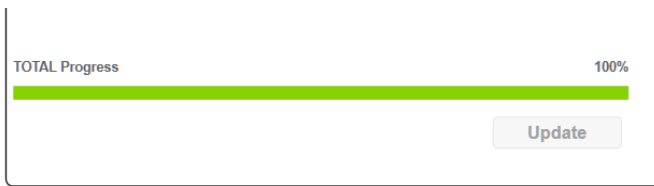
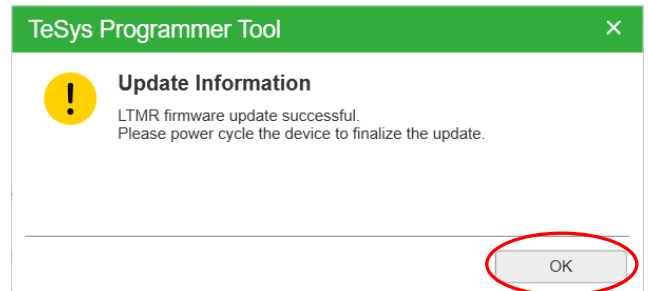

Figure 10
Figure 11
6. Once the “Total Progress” bar reaches 100%, as per Figure 10, a pop-up window will appear, indicating successful LTMR Firmware Upgradation, as per Figure 11. At this time, Press “OK”, power-cycle the device again and wait 20 seconds. Then, click the “Connect” button.